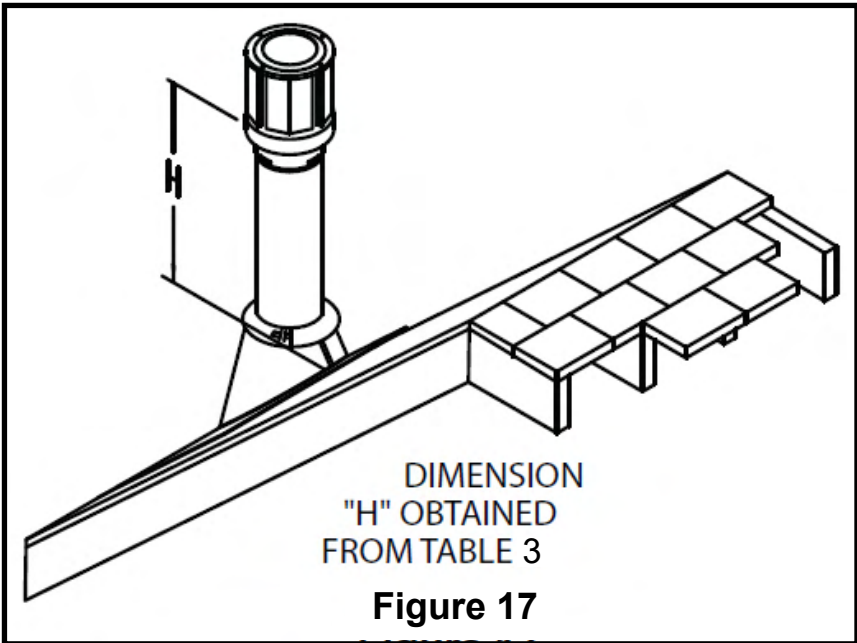

Figure 17
Step 8. Continue to add Pipe Sections until the height of the system (before adding the Cap) meets the minimum building code requirements as described in (Table 3 and Fig. 17). Note that for steep roof pitches, the vent height must be increased. In high wind conditions, nearby trees, adjoining roof lines, steep pitched roofs, and other similar factors can result in poor draft, or down drafting. In these cases, increasing the vent height or switching to the High Wind Termination Cap may help to solve the problem.